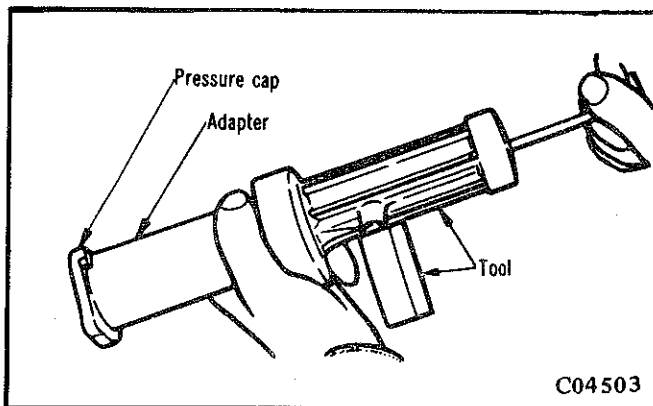

Fig. 3—Testing the pressure cap (Tool E7C15)
- (1) Attach neoprene seal and adaptor to tester E7C15 (See Fig. 3).
- (2) Dip the pressure cap in water and apply cap to tester adaptor.
- (3) Apply specified pressure to cap. If cap fails to hold pressure, replace the cap.